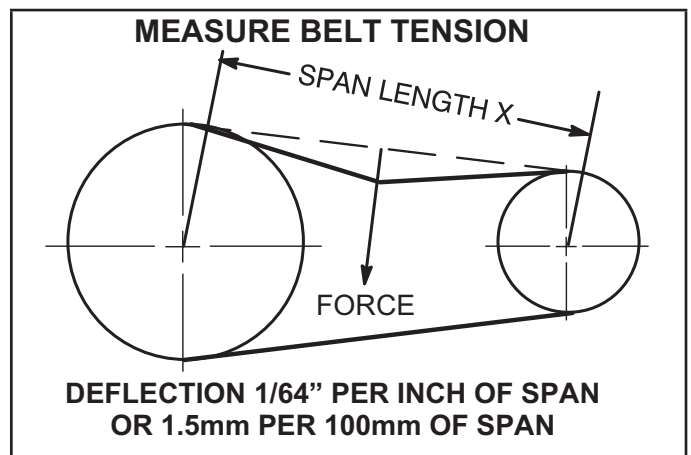

FIGURE 11
- 1 - Measure span length X. See FIGURE 11.
- 2 - Apply perpendicular force to center of span (X) with enough pressure to deflect belt 1/64" for every inch of span length or 1.5mm per 100mm of span length.